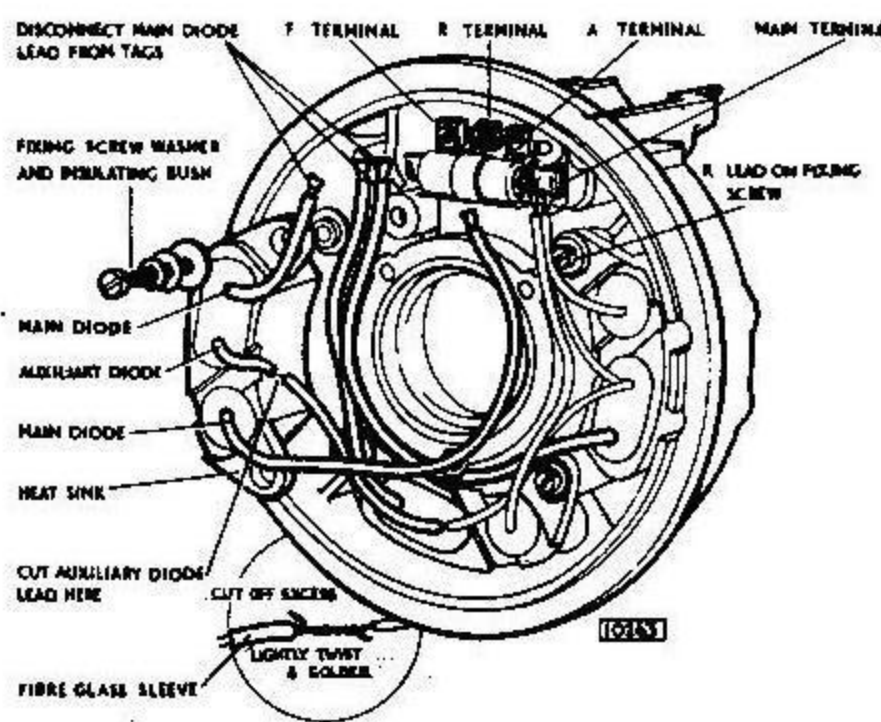

Fig. 9 Heat sink assembly
Individual diodes cannot be removed. If faulty, the heat sink assembly of three diodes and heat sink (Fig 9) must be changed. The replacement heat sink is supplied with lengths of wire attached to the diodes. Individual wires can be cut to suit the point of connection.
1. Fit the new heat sink in position (Fig 9). Place the main leads one to the right end and one to the left and pass them through the securing sleeve.
- NOTE: The fixing screw nearest the terminal block on the right hand side (Fig 9) secures the lead from terminal R and consequently has only one insulating bush and a spacer.